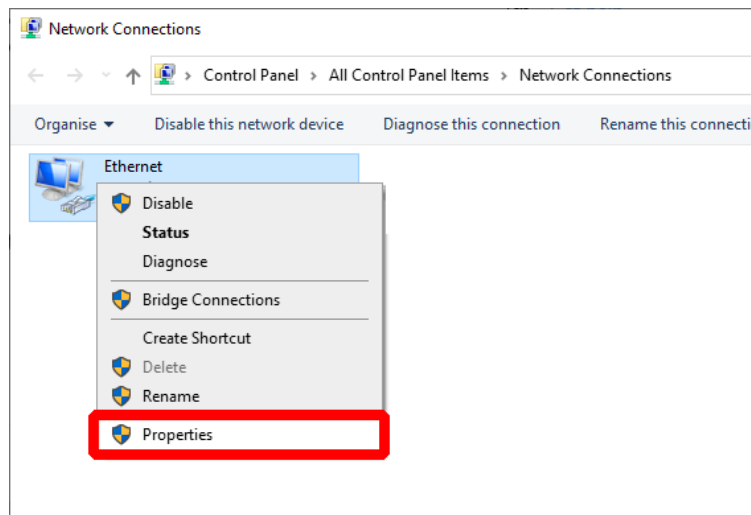

Fig. 4-3 Network Connections screen
- 5) The **Network Connections** screen is displayed. See Fig. 4-3 below.